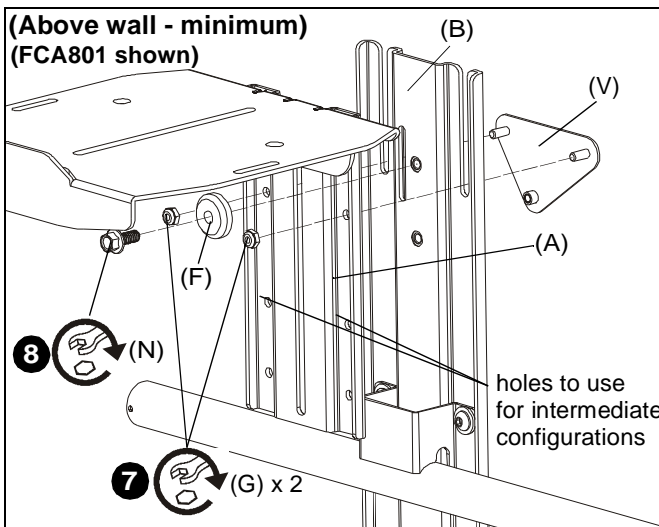

Figure 19
7. (For **minimum/intermediate extension**) Use two #10-24 lock nuts (G) to secure upright bracket (A) to main bracket (B) and adapter plate (V). (See Figure 19)
8. (For **minimum/intermediate extension**) Use 1/4-20 x 5/8" hex head flange bolt (N) and center washer (F) to secure upright bracket (A) to main bracket (B). (See Figure 19)